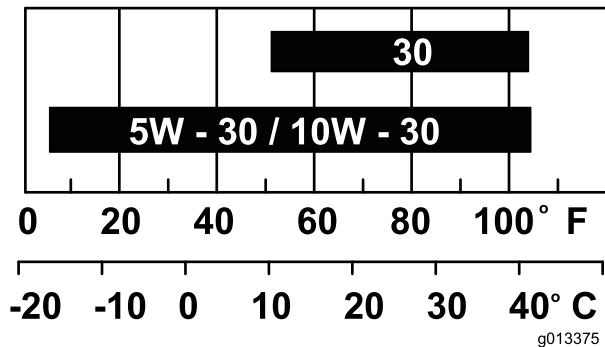

Figure 51
**Note:** Use SAE 10W-30 for general use. You can use the other viscosities shown in the chart when the average temperature in your area is within the indicated range (Figure 51).